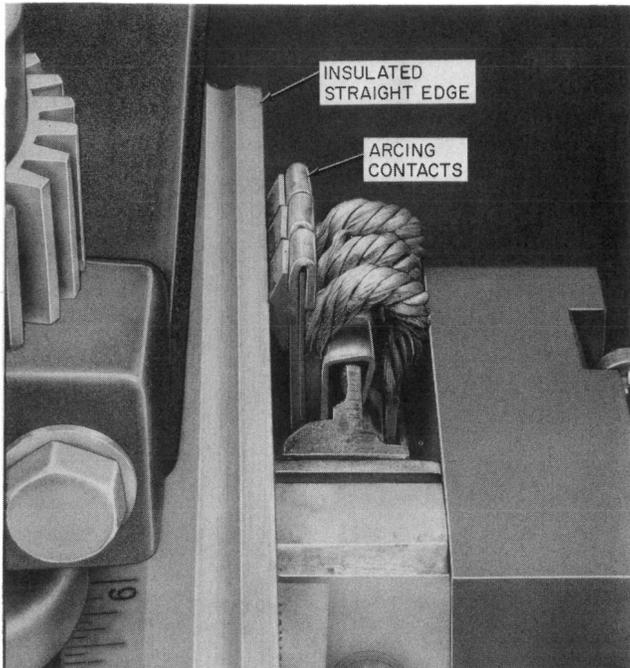

Fig. 6—Method of Checking Arcing Contact Alignment
**\*\*2.09 Arcing Contact Alignment:** Fig. 6—
The arcing contacts shall be in alignment when the contacts are nonoperated. Check with an insulated straight edge, as shown in Fig. 6.